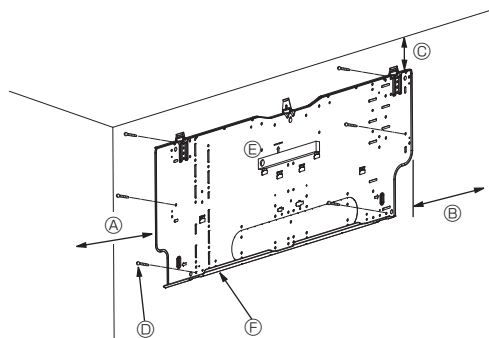

Fig. 3-4
■ PKFY-WL-NKMU-E (Fig. 3-4)
- (A) Min. 120 mm, 4-11/16 inch
- (B) Min. 220 mm, 8-11/16 inch
- (C) Min. 70 mm, 2-3/4 inch
- (D) Fixing screws (4 x 25) ②
- (E) Level
- (F) Mount board ①